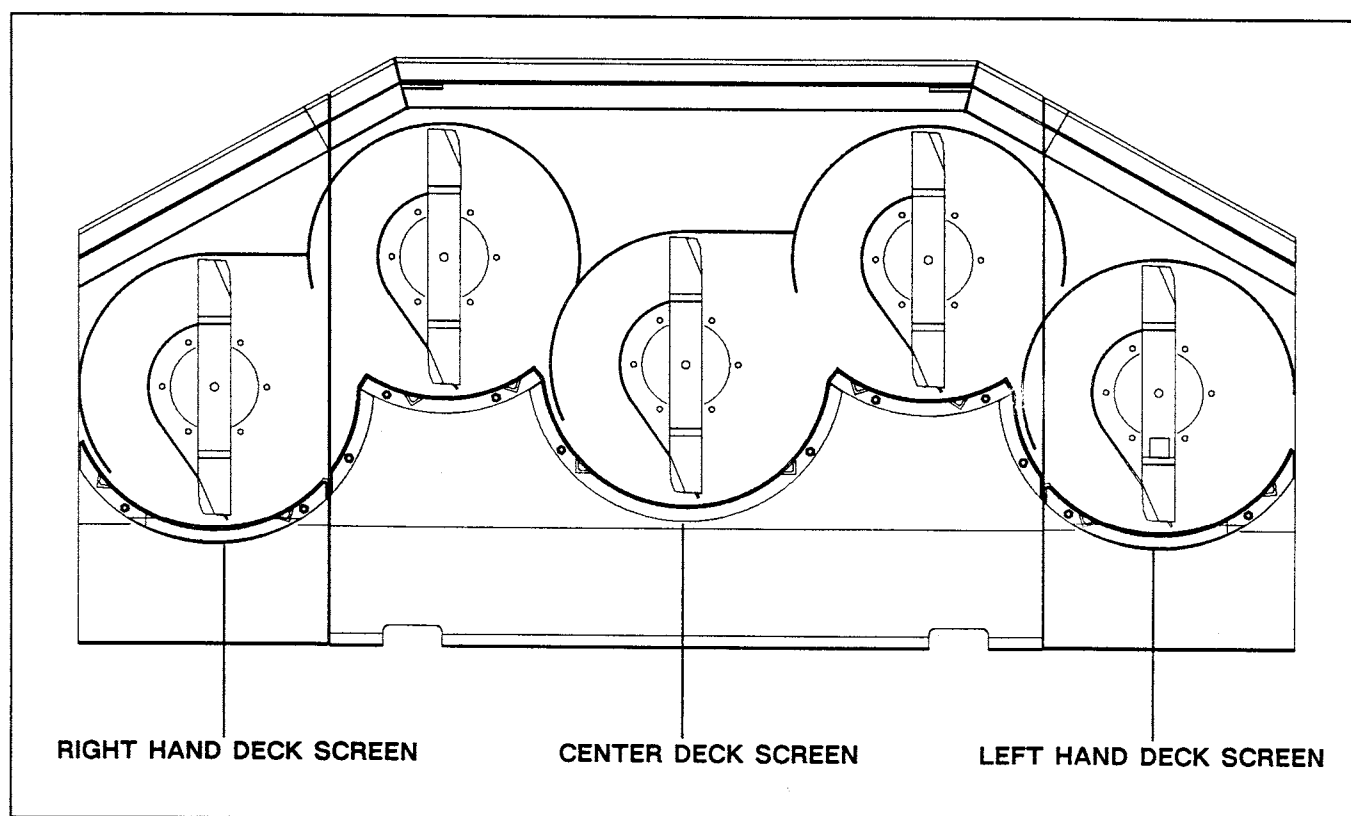

Figure 1
4. Position right hand, center and left hand mulcher screens into deck as shown in figure 1.
7. Remove mulcher screens from deck and drill (12) 13/32" (.406) dia. holes at positions marked.
8. Secure mulcher screens to deck with (12) 3/8-16 x 7/8" lg. capscrews.